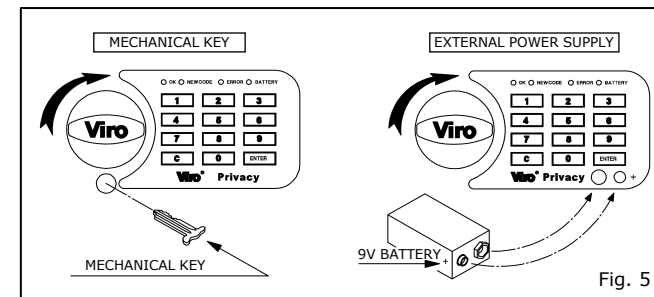

Fig. 5
1. Remove the plastic top placed down the knob in order to access the key hub (see Fig. 5).
1. Press the battery endings to the special connectors on the keypad (see Fig. 5) **paying attention to the polarity.**